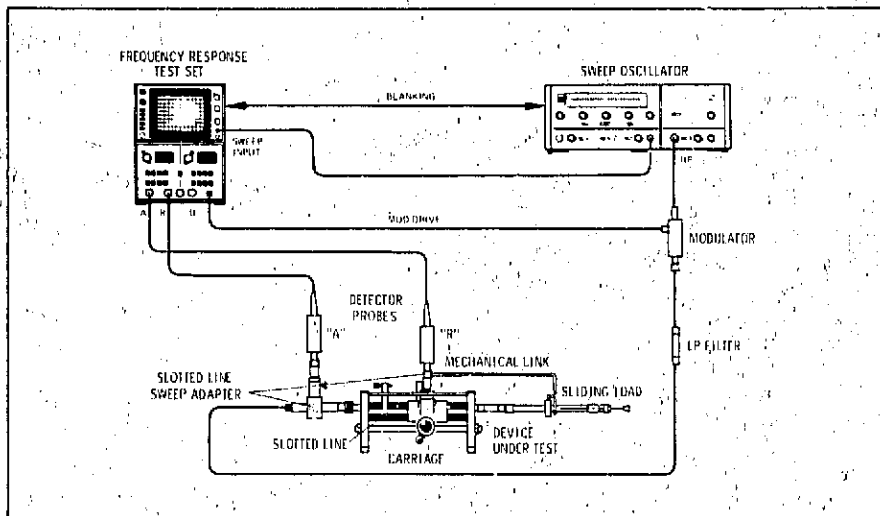

Figure 5. Mechanically-Coupled Sliding Load
60. To mechanically couple an HP Model 905A Sliding Load, use a piece of 3/8 inch outside diameter aluminum tubing approximately 18 inches long with a right-angle bend 4 inches from one end. Clamp a 1-1/16 inch inside diameter cable clamp around the sliding collar of the load, a 3/8 inch inside diameter cable clamp on the tubing, and fasten the two cable clamps together with a screw and nut. (See Figure 5.) Connect the long end of the tubing to the moving portion of the carriage (micrometer holder).